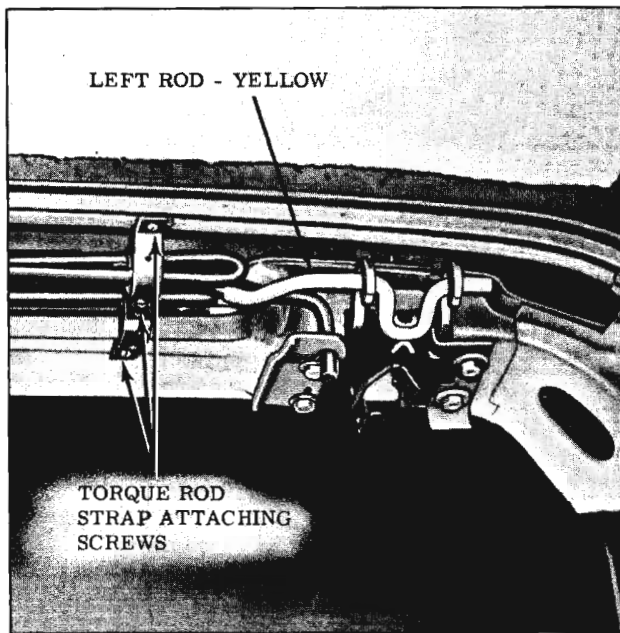

Fig. 16-287 Left Torque Rod
2. Position torque rod assembly in body position, making sure that left torque rod loop (color coded - yellow) is installed at left hinge. (Fig. 16-287)
3. Engage loop ends of torque rod assembly with hinges. (Fig. 16-287)